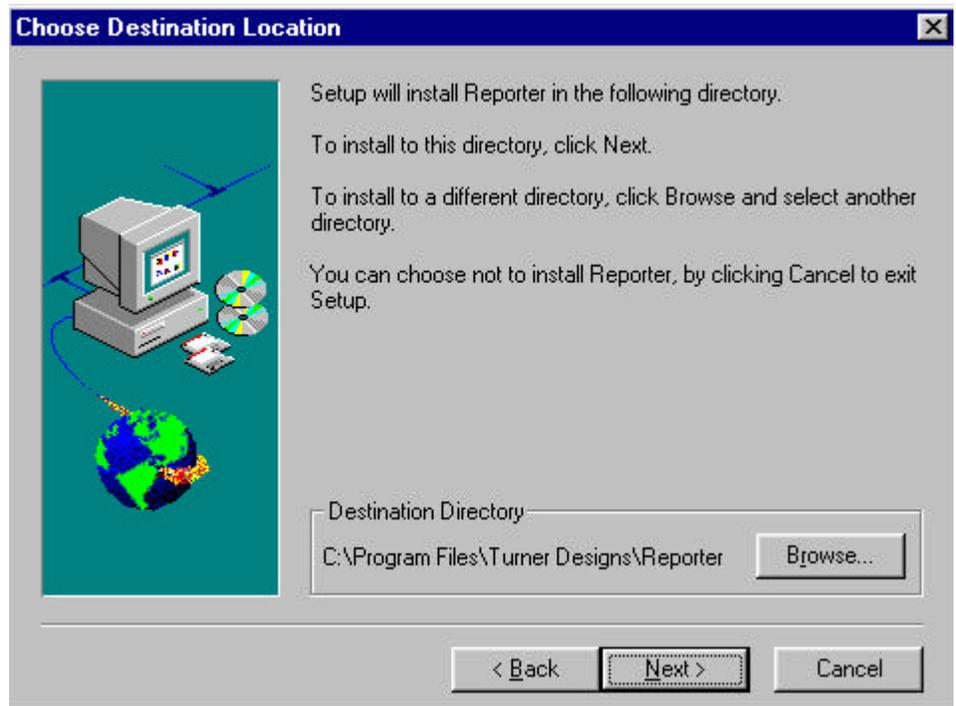

Figure 15
- C. Follow the instructions given during the installation process. You must choose what directory you wish to install the software. The default directory is C:\Program Files\Turner Designs\Reporter. To select an alternative directory, click on the Browse button shown in figure 15. Click the “Next” Button when you are ready to continue with the software installation.